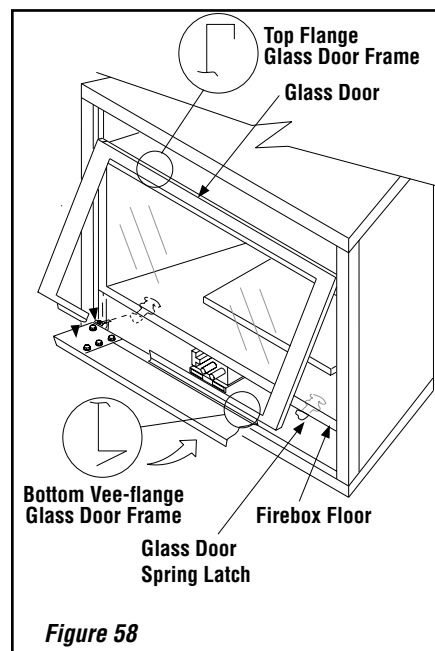

Figure 58
(see Figure 58)
Locate the two (2) glass door spring latches at the top of the control compartment (see Figure 58). Pull out each spring latch until it disengages from the door frame bottom vee-flange. Remove the door by tilting it outward at the bottom and lifting it up. Set the door aside, taking care to protect it from inadvertent damage.
Installing Glass Enclosure Panel (see Figure 58)
Position the door in front of the firebox opening with the bottom of the door held away from the fireplace (Figure 58). Hook the top flange of the door frame over the top of the firebox frame.